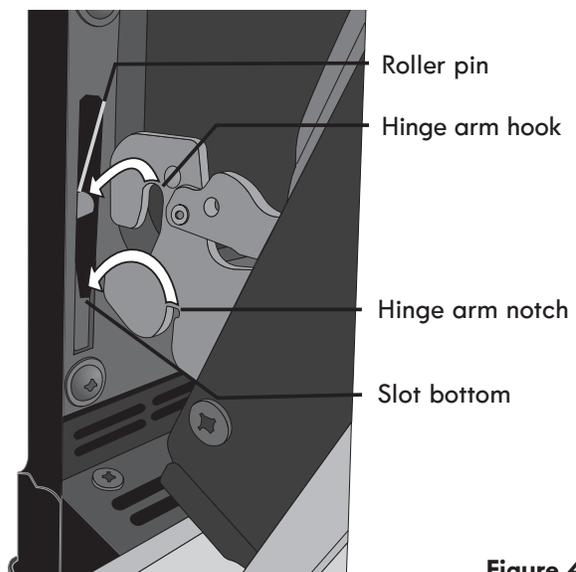

Figure 4
5. With the oven door in the broil stop position, lift the oven door hinge arms over the roller pins located on each side of the oven frame (See Figure 4).
2. Holding the oven door at the same angle as the removal position, seat the hook of the hinge arm onto the roller pins located on each side of the oven door frame (See Fig. 4). Also, seat the notch of the hinge arm onto the bottom of the slot at the same time you seat the hook.